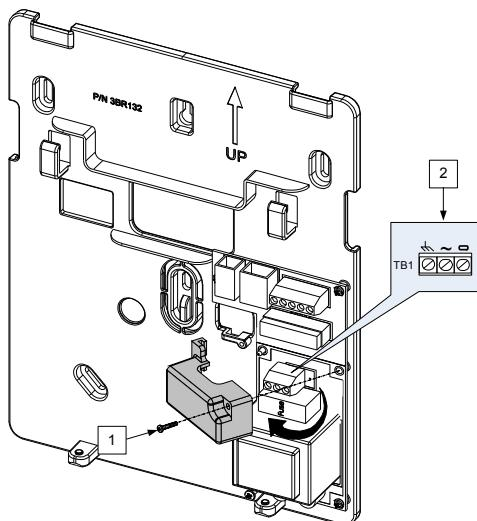

Figure 6: Connecting AC Power wires
1. Remove the power supply unit cover (Figure 6, 1).
2. Connect the power wire (Safety approved, SVT, 18AWG, 0.75mm2) to the power terminal located on the power supply unit (TB1) (2, Figure 6).